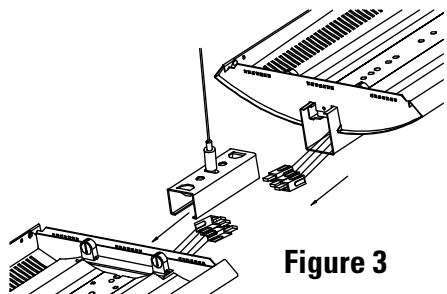

Figure 3
- Connect the wiring between fixtures before sliding fixtures together. (Fig. 3)
- Slide joiner bracket into both fixtures, make sure the wiring does not get pinched. (Fig. 3)